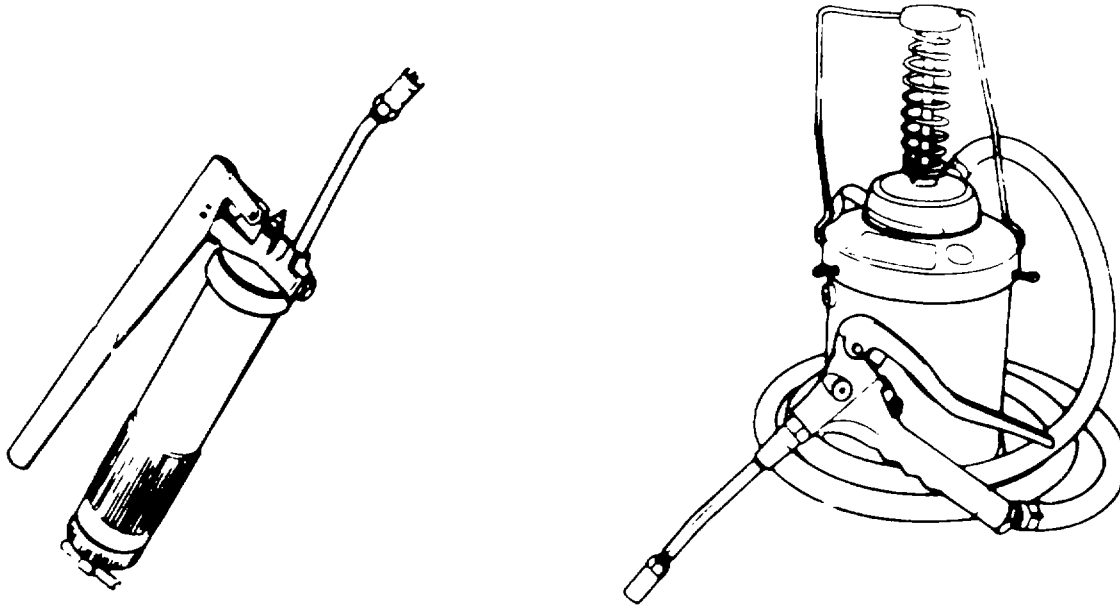

Figure 9-20. Lubricating Equipment
m. Lubricating Equipment. Lubricating equipment, shown in figure 9-20, is commonly called grease guns. Grease guns are used to lubricate various moving parts on an aircraft. This paragraph will cover hand operated grease guns.